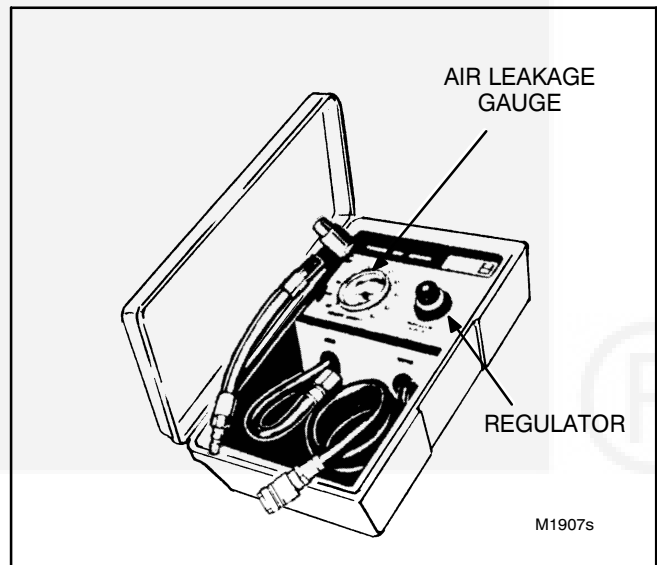

FIGURE 10-1. TYPICAL LEAK DOWN TESTER
4. Connect the leak down tester to shop air and set calibration (see Figure 10-1). Perform the leak down test according to the manufacturer's instructions. Secure the fan wheel to prevent the piston from moving during this test.